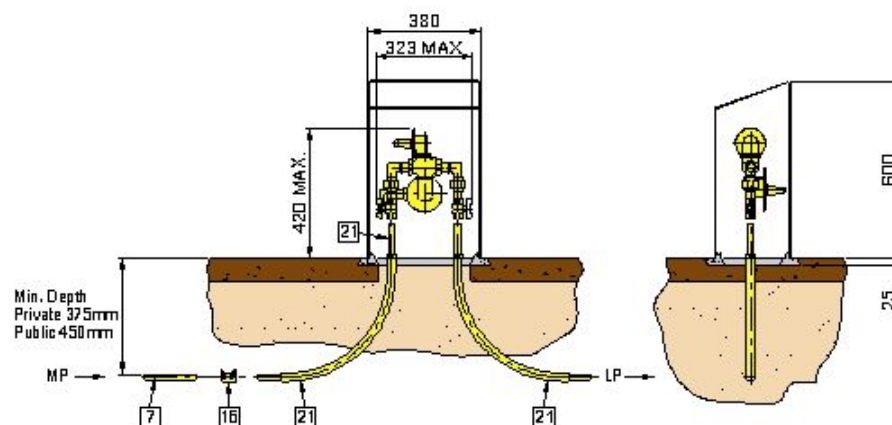

Figure 91 - typical layout for boundary regulator
3. PE steel transition fittings must be used on the inlet and outlet to the regulator in accordance with Figure 91.